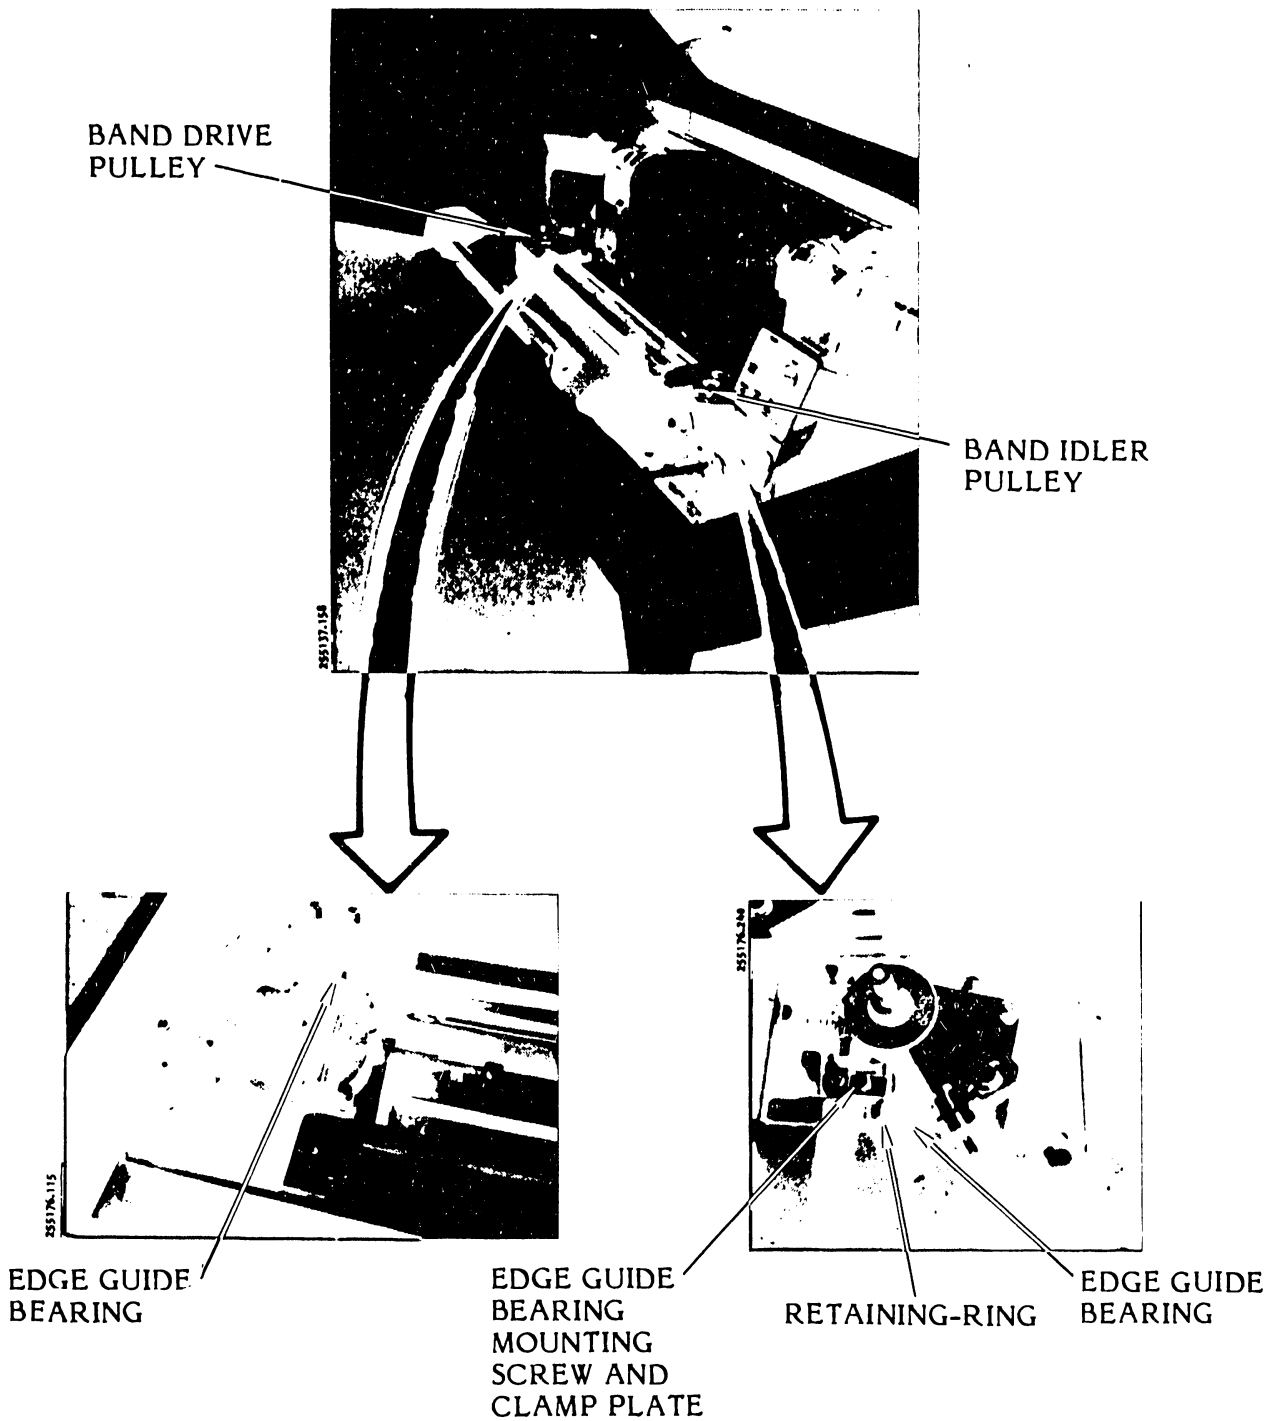

Figure 3-87. Edge Guide Bearing (Posidrive Band Motor) Removal/Installation
1. Use a No. 2 retaining ring pliers to remove the retaining ring (see figure 3-87).
2. Use the No. 2 retaining ring pliers to snap the new retaining ring on the shaft to hold the bearing in place (see figure 3-87).